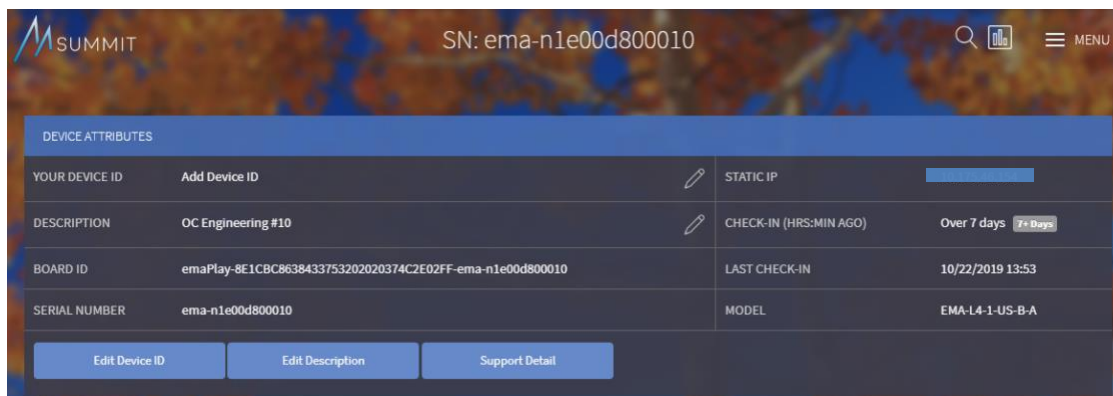

Figure 25
1. The "DEVICE ATTRIBUTES" section can be used to investigate ema's Board ID, IP address, Last check-in, etc. Certain fields (Device ID, and Description) can also be edited accordingly. Reference Figure 25. Note the board ID that was set by ema:Play in the sample log in section 5.5.7.